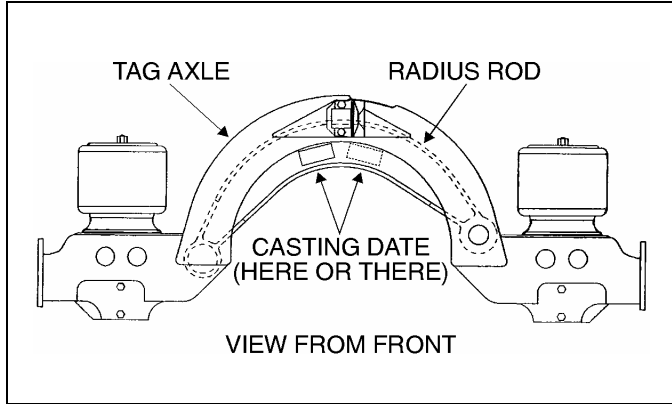
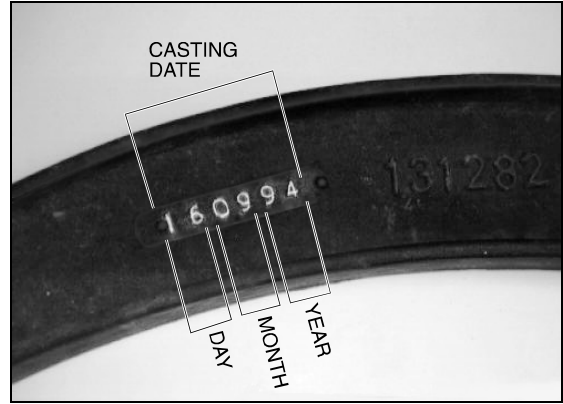

FIGURE 1
FIGURE 2
1. Under vehicle, in the rear axles section, locate tag axle transversal radius rod (Fig.1).
2. Verify casting date on the radius rod (Fig. 1 and Fig. 2), if it is 310394 or 160994, perform step B, otherwise, don't perform it.
4. Under vehicle, in the rear axles area, locate tag axle transversal radius rod (Fig. 1).